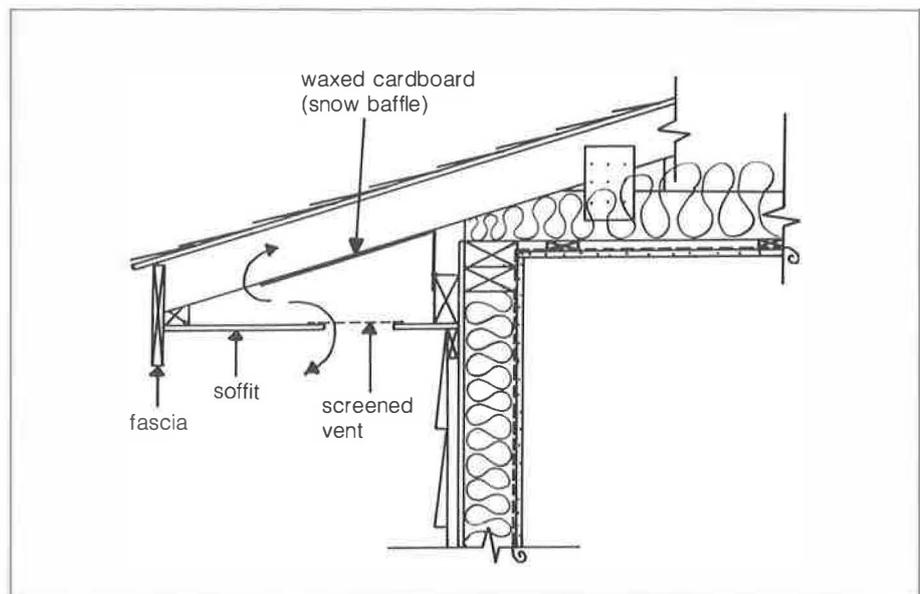

Fig. 17. Soffit baffle prevents entry of blowing snow
- Install baffles in soffits, and vents with screen filters (*fig. 17*).